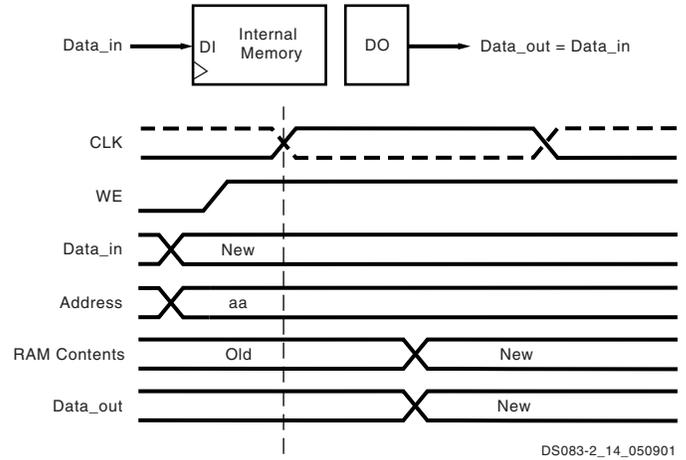

Figure 49: WRITE_FIRST Mode
The WRITE_FIRST option is a transparent mode. The same clock edge that writes the data input (DI) into the memory also transfers DI into the output registers DO, as shown in Figure 49.